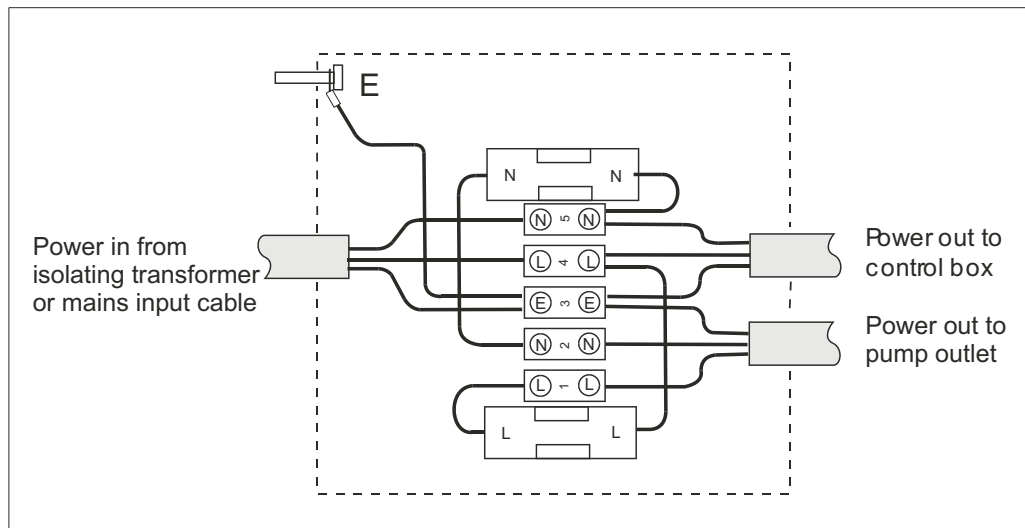

Fig. 6-4 Mains connection box connections
- b) *Non-weighing beds:* Thread the new mains power cable through the cable gland on the mains connection box (17-52) and connect the wires to the terminals (see Fig. 6-4). Tighten the cable gland and refit the lid of the box.